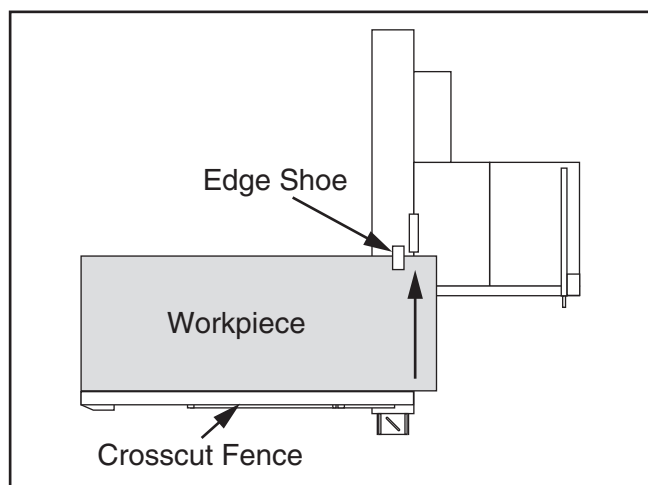

Figure 110. Crosscut with fence mounted in rear position.
Mounting the crosscut fence in the rear position (see **Figure 110**) gives greater stability for crosscutting smaller panels.
1. Install crosscut fence in rear mounting location shown in **Figure 110** and lock in place.
4. Load workpiece onto table saw in rear mounting location, shown in **Figure 110**. If necessary, use edge shoe to secure workpiece to sliding table.